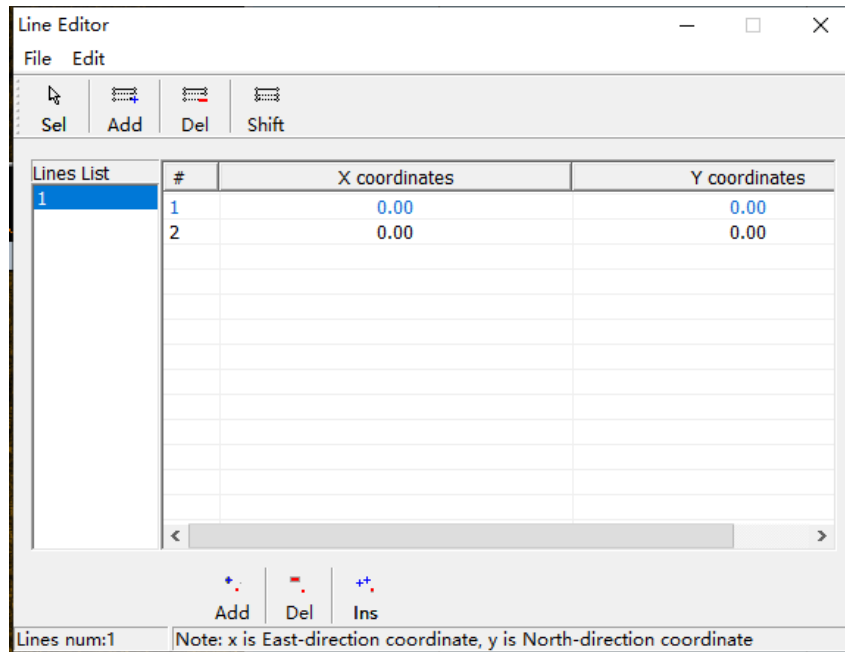

Figure 6.20 Coordinate Point Input Method
A) Coordinate Point Input Method: In the Edit Line dialog box, there is a default survey line in the line list. Its default line name and number will be sequenced. User can double-click to change it. Or click the "Add Point" button, the default coordinate point <0.00, 0.00> will be added as shown in Figure 6.20.